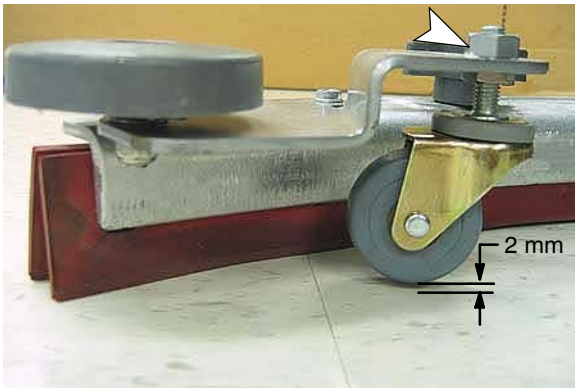

FIG. 7
7. To adjust the blade deflection, place the squeegee assembly on a level surface and adjust the casters as shown (Figure 7).